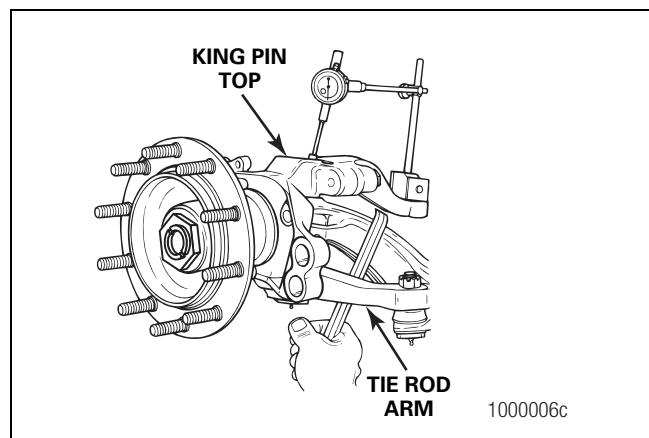

Figure 6.10
- B. Place a pry bar between the tie rod arm and the axle beam. Figure 6.10.